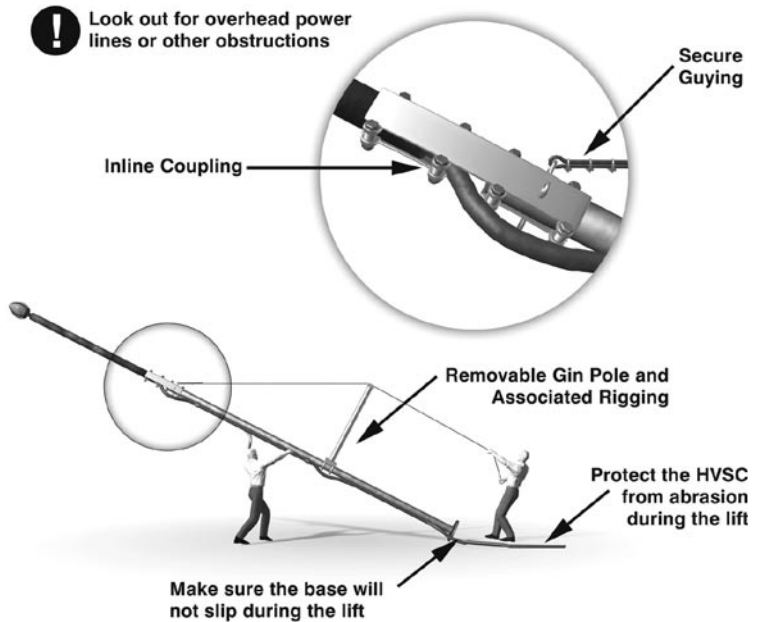

Figure 34.
- Fit the HVSC downconductor in and out of the slot in the coupling. Refer to Figure 34 on page 36.